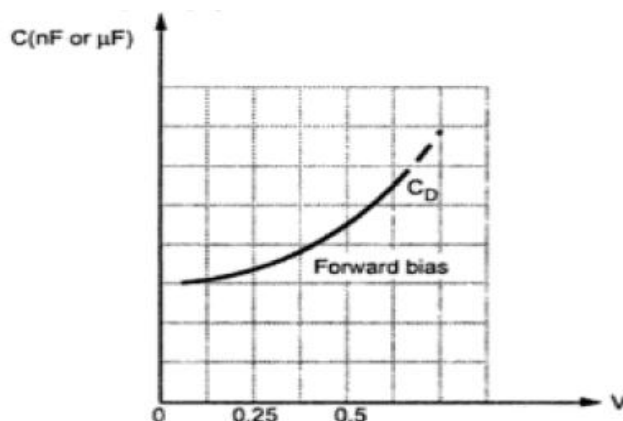

Fig. 1.16 Diffusion capacitance versus applied forward voltage
- The graph of C_D against the applied forward voltage is shown in the Fig. 1.16.